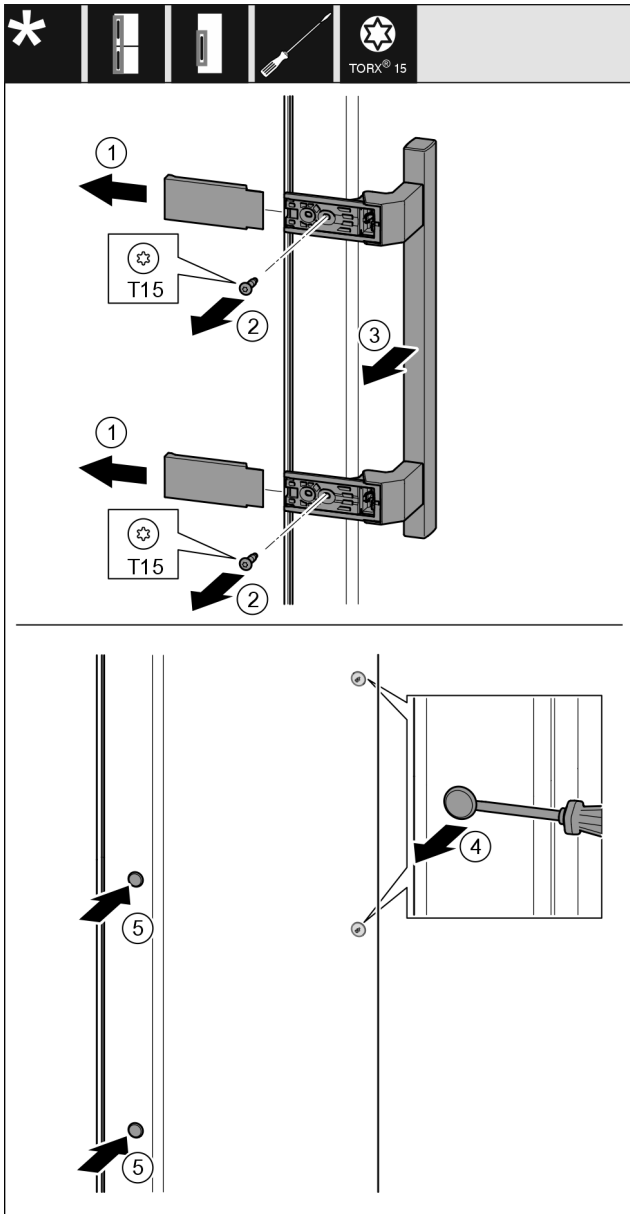

Fig. 8
- ▶ Pull off the cover. Fig. 8 (1)
- ▶ Unscrew the screws with a Torx 15 screwdriver. Fig. 8 (2)
- ▶ Take off the handle. Fig. 8 (3)
- ▶ Carefully lift the side plug with a slotted screwdriver and pull it out. Fig. 8 (4)
- ▶ Replace the plug on the other side. Fig. 8 (5)